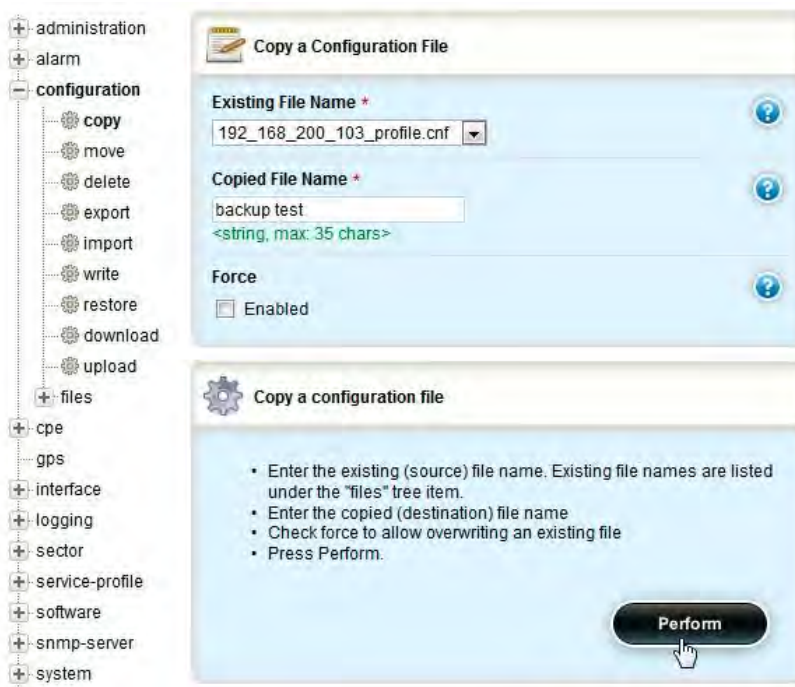

Figure 85 Configuration Copy Settings
1. Select the file to be copied from the drop-down menu of the **Existing File Name** field (Figure 85).